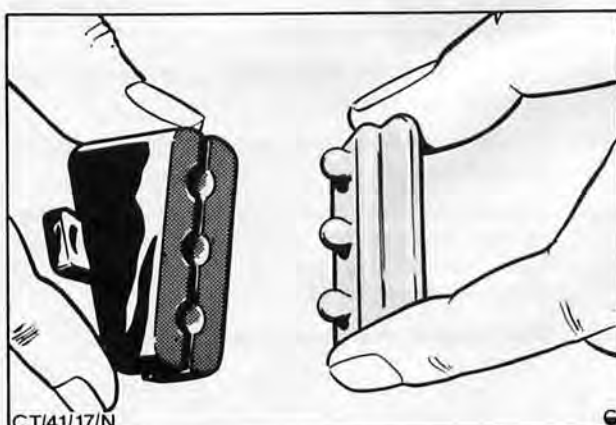

Fig. 25. Inserting nylon pad into striker plate rubber
- 3. Refit nylon pad to underside of rubber, Fig. 25.